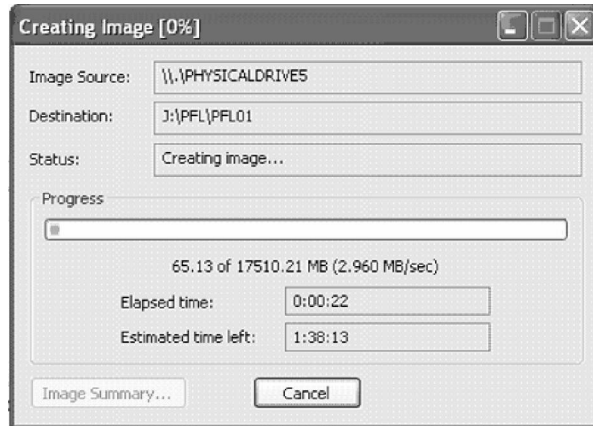

Figure 24 – Image Capture Progress Screen
- A Progress Window will come up that shows a Progress Bar as well as speed (in MB/sec), Time elapsed and Time Remaining. It also shows the current DD Image file. See Figure 24 below.